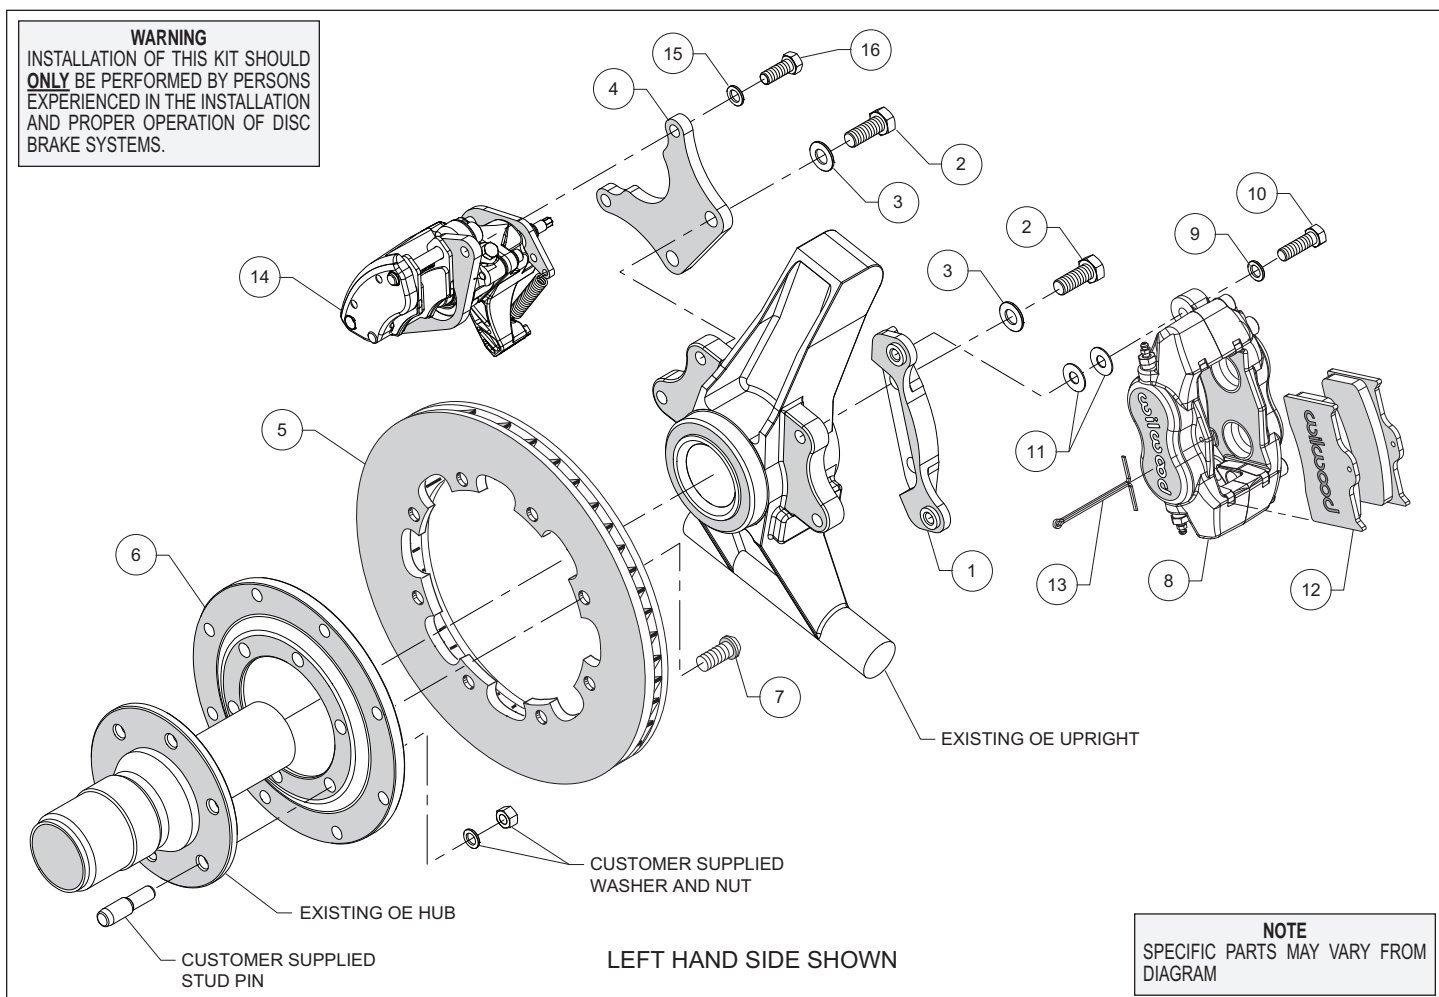
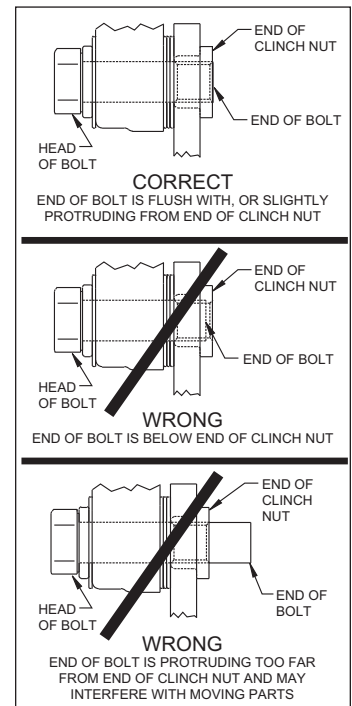

Figure 1. Typical Installation Configuration
Figure 3. Clinch Nut Engagement Diagram
Assembly Instructions (numbers in parenthesis refer to the parts list and Figure 1 on the preceding pages): **CAUTION:** All mounting bolts must fully engage clinch nuts. Be sure to check that all bolts are either flush or protruding through flanged side of clinch nut after shimming, Figure 3.
- Orient the Dynalite caliper mount bracket (1) as shown in Figure 1 and install using bolts (2) and washers (3). Ensure that the flanged heads of the clinch nuts in the bracket are facing outboard, Figure 1. Temporarily tighten the mounting bolts. **NOTE:** The bracket must fit squarely against the mount bosses on the upright. Inspect for interference from casting irregularities, machining ridges, burrs, etc. Remove bolts one at a time, apply red *Loctite*® 271 to the threads and torque nuts to 60 ft-lb.
- Orient the parking brake caliper mount bracket (4) as shown in Figure 1 and install using bolts (2) and washers (3). Temporarily tighten the mounting bolts. **NOTE:** The bracket must fit squarely against the mount bosses on the upright. Inspect for interference from casting irregularities, machining ridges, burrs, etc. Remove bolts one at a time, apply red *Loctite*® 271 to the threads and torque nuts to 60 ft-lb.
- Orient the rotor (5) and the rotor adapter (6) as shown in Figure 1 and Photo 1. Attach the rotor to the adapter using bolts (7). Using an alternating sequence, apply red *Loctite*® 271 to the threads, and torque to 25 ft-lb.
- Mount the adapter/rotor assembly (5/6) to the hub (customer supplied) using stud pin, washer and nut (all customer supplied), as shown in Figure 1. Using an alternating sequence, apply red *Loctite*® 271 to the threads, and torque nuts to manufacturer's specifications.
- **NOTE:** Please reference the caution statement at the beginning of the assembly instructions. Mount the Dynalite caliper (8) onto the Dynalite caliper mounting bracket (1) using bolts (10) and washers (9), as shown in Figure 1. Initially place two .035" thick shims (11) on each bolt between the caliper and the bracket, Photo 2. Temporarily tighten the mounting bolts and view the rotor (5) through the top opening of the caliper. The rotor should be centered in the caliper, Photo 3. If not, adjust by adding or subtracting shims between the bracket and the caliper. Always use the same amount of shims on each of the two mounting bolts. **NOTE:** The end of each bolt must be flush with or slightly protruding from the head of the clinch nut, as shown in Figure 3. If necessary place spare shims between washer (9) and caliper mounting ear to achieve the proper clinch nut engagement. Once the caliper alignment and clinch nut engagement are correct, remove the bolts one at a time, apply red *Loctite*® 271 to bolt threads, and torque to 40 ft-lb.
- Mount the parking brake caliper (14) onto the parking brake caliper mounting bracket (4) using bolts (16) and washers (15), as shown in Figure 1. Apply red *Loctite*® 271 to bolt threads, and torque to 40 ft-lb.